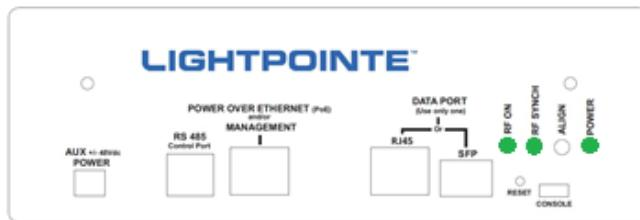

Figure 5-19: Default User Panel status after successful alignment
11. When looking at the user panel (see Fig. 5-19 the following LEDs should be on:
To connect to the LinkManager™ browser-based management application, connect an Ethernet cable to the *Power-over-Ethernet and Management Port* located on the radio back panel (see Fig. 5-19) and open a web-browser on the same subnet as the Aire unit and enter the IP address of the AireLink unit in the address/URL field.